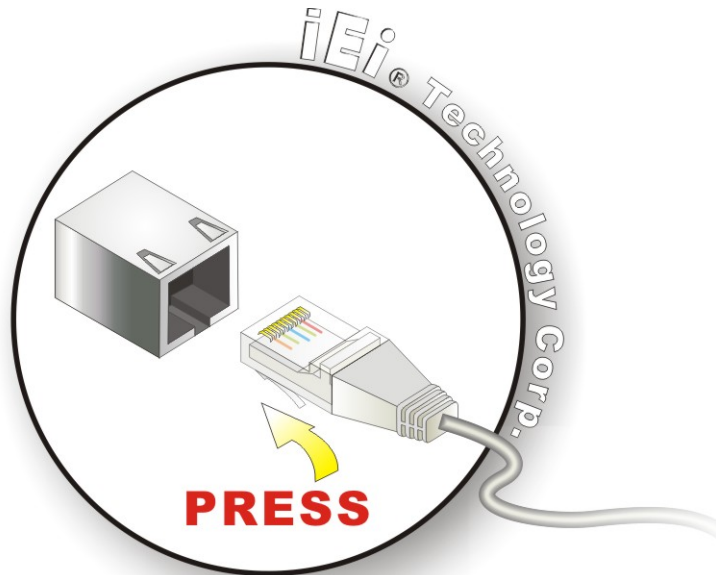

Figure 4-15: LAN Connection
Step 2: **Align the connectors.** Align the RJ-45 connector on the LAN cable with one of the RJ-45 connectors on the KINO-AH612. See **Figure 4-15**.